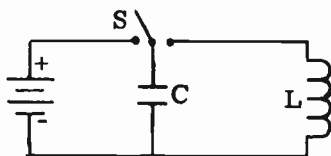

FIG. 12-2. AN ELEMENTARY OSCILLATOR.
**THE OSCILLATING TUNED CIRCUIT.** The heart of an oscillator is a **TUNED CIRCUIT** consisting of a coil and capacitor in parallel. In order to understand how an oscillator works, it is necessary to understand how a simple tuned circuit, such as the one shown in Fig. 12-2, can produce AC
When a vacuum tube is hooked up as an amplifier, the AC energy developed in the plate circuit is much greater than that applied to the grid circuit. If the oscillating circuit of Fig. 12-2 is connected to the grid circuit of a vacuum tube, an amplified version of the oscillating voltage would appear in the plate circuit. If we could, somehow, continuously feed back some of the energy from the plate circuit to the grid circuit to compensate for the resistance losses in the L-C grid circuit, undamped oscillations would